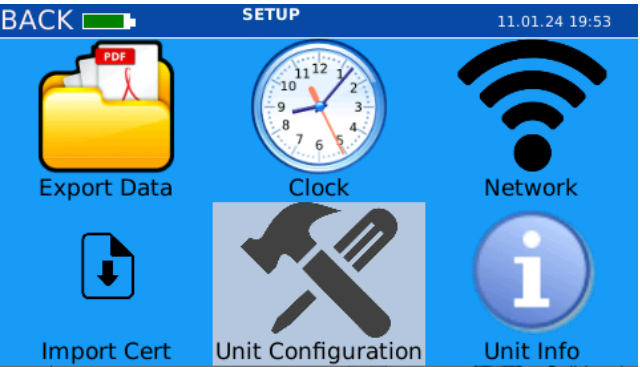
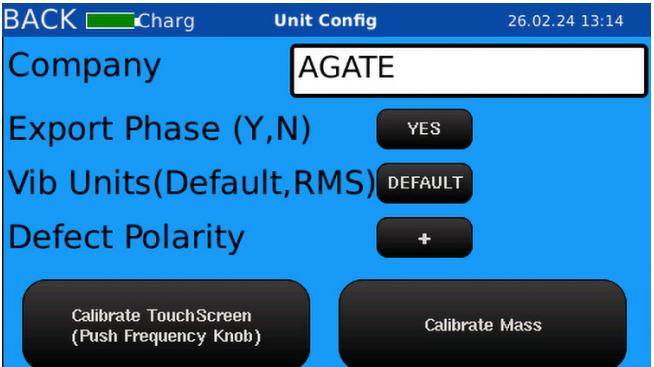

Figure 62. Select "Unit Configuration"
Figure 63. Unit configuration screen options
- 1. In the Setup menu, select **Unit Configuration** (Figure 62) to open the configuration screen (Figure 63).
- 1. On the Unit Configuration screen, select the **Company** field and enter the company name (Figure 63).
- 1. On the Unit Configuration screen, select the **Yes** button next to Export Phase (Figure 63) to show phase data in the automatic test table view (Figure 64).
- 2. Select the **No** button next to Export Phase (Figure 63) to hide phase data in the automatic test table view (Figure 65). Phase data is hidden by default. In most situations, it may be best to keep phase data hidden.